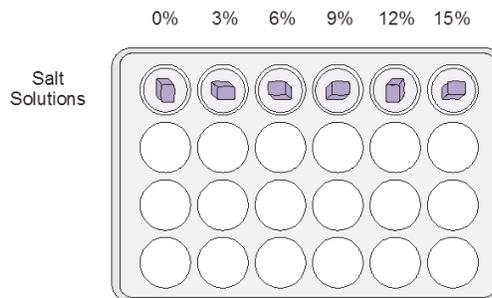

Figure 1
6. Set the timer to 10 minutes and begin timing. Using forceps, add a piece of beet to each of the six well plates as shown in Figure 1.